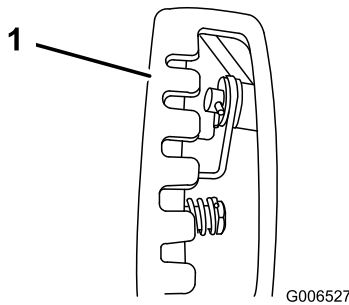

Figure 8
**Note:** For easier installation, look down through the opening in the speed selector (Figure 8).